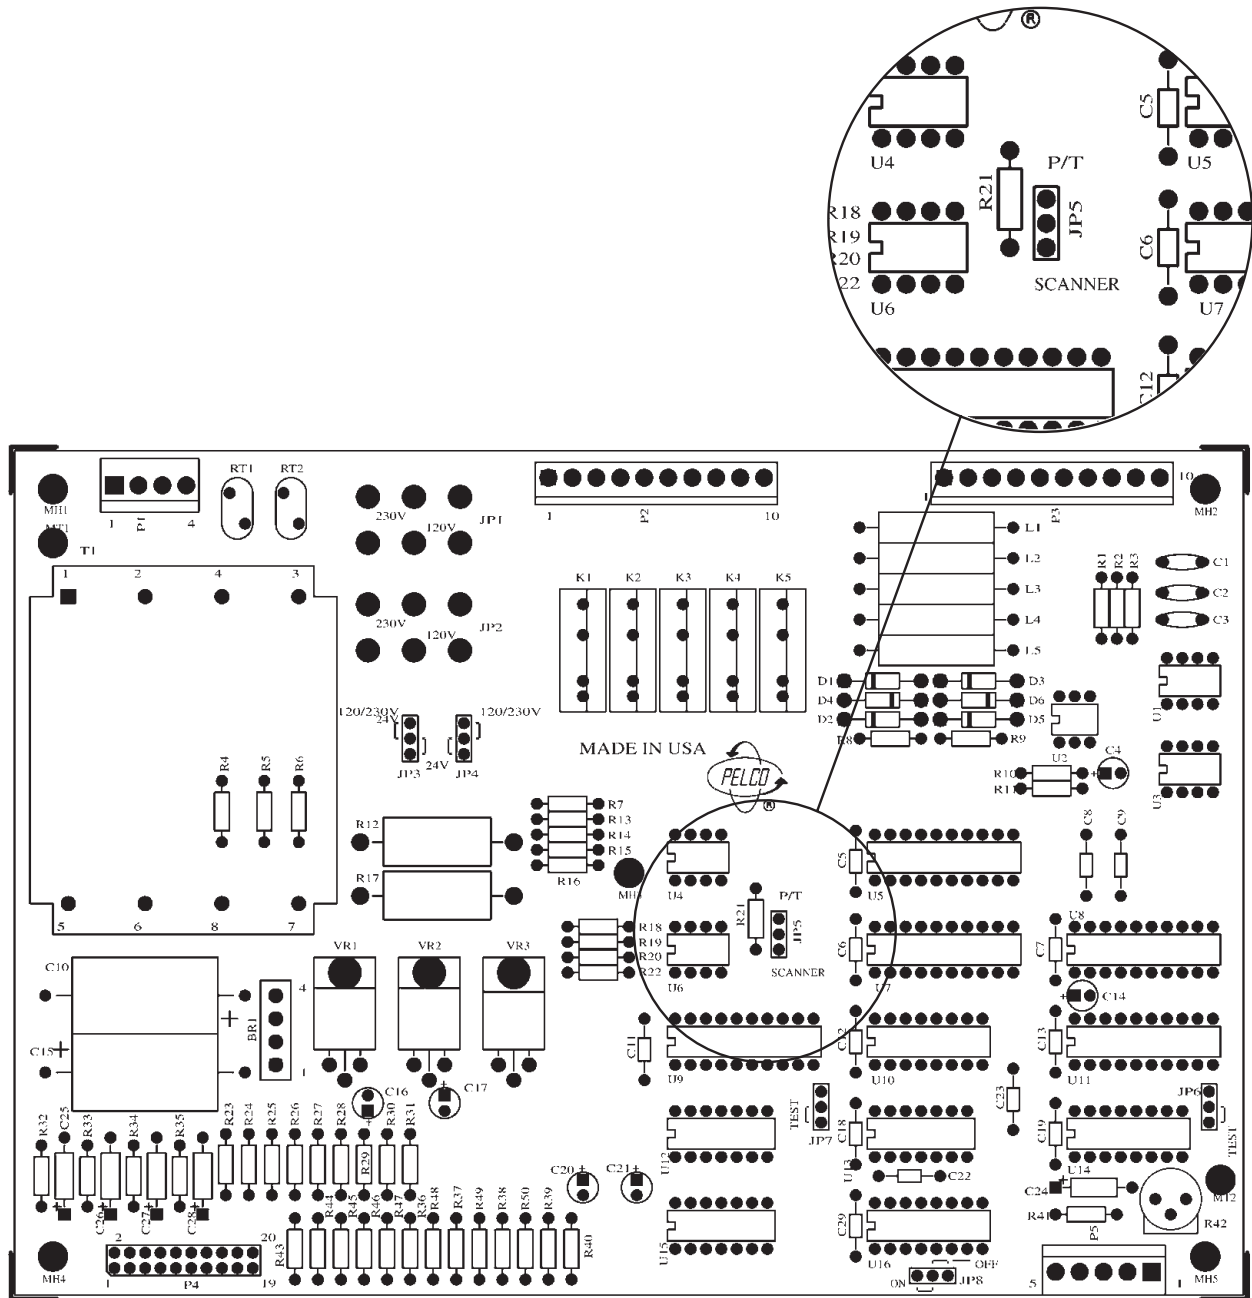

Figure 1. PC Board Configuration
1. To operate a scanner with the MPTAZ Series, reset the control's jumper JP5 to the SCANNER position. Jumper JP5 is factory set in the P/T position. Refer to Figure 1 for the internal configuration of the PC board.